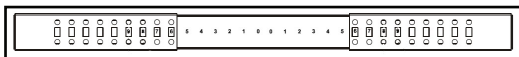

Figure 1
1. Align the **Corner Sections** (x 2) with the **Center Sections** (x1) and slide the **Corner Sections** ovetop of the **Center Sections**. (Figure 1)